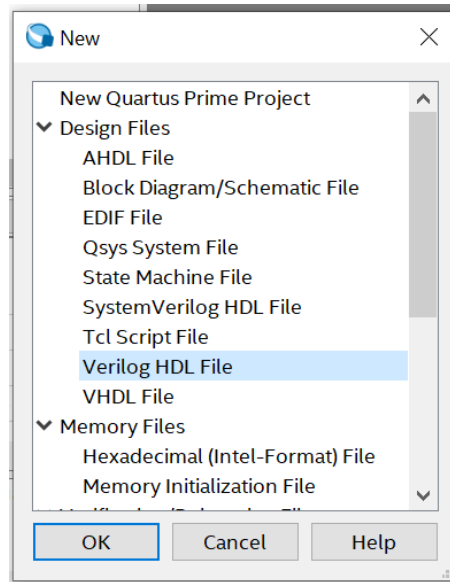

Figure 4: New File Window
- ☐ A window, shown in Figure 4, should pop up. Click on **Verilog HDL File** and then **OK**.